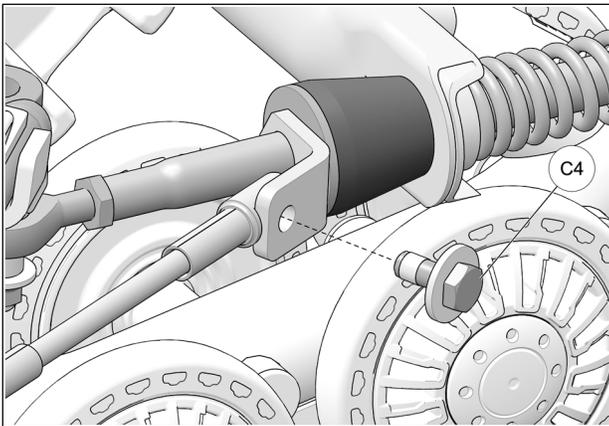

Fig. 18
13. Reverse steering wheel a little to be able to bolt support plate and cable together. Tighten provided bolt (C4) to 35 N•m [24 lb•ft]. See Fig. 18. Repeat steps on right side.